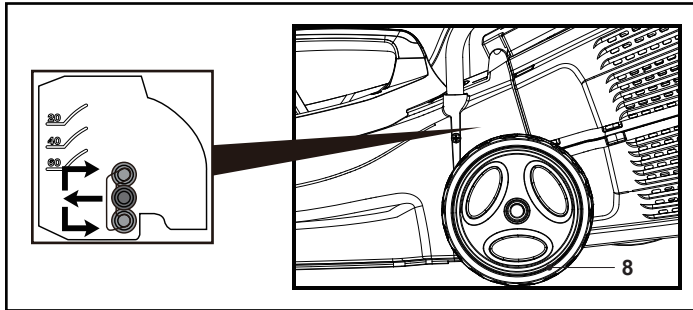

Fig. 9
3. Select a slot and insert the wheel (8) axle (Fig. 9).